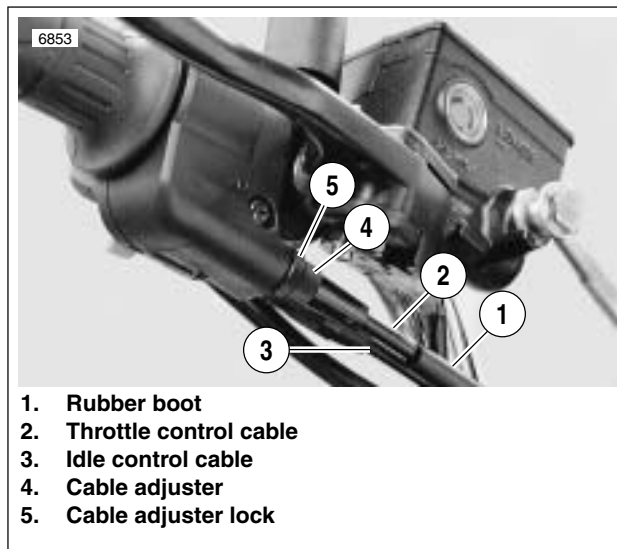

Figure 1-42. Throttle Control Cables
2. See Figure 1-42. Loosen cable adjuster lock (5) on each.
3. Turn adjusters (4) in direction which will shorten cable housings to minimum length.
5. Turn adjuster on throttle control cable (2) until throttle cam stop touches stop plate. Tighten cable adjuster lock on throttle control cable adjuster; release throttle control grip.
6. Turn handlebars fully to right. Turn adjuster on idle control cable (3) until end of cable housing just touches the cable guide.